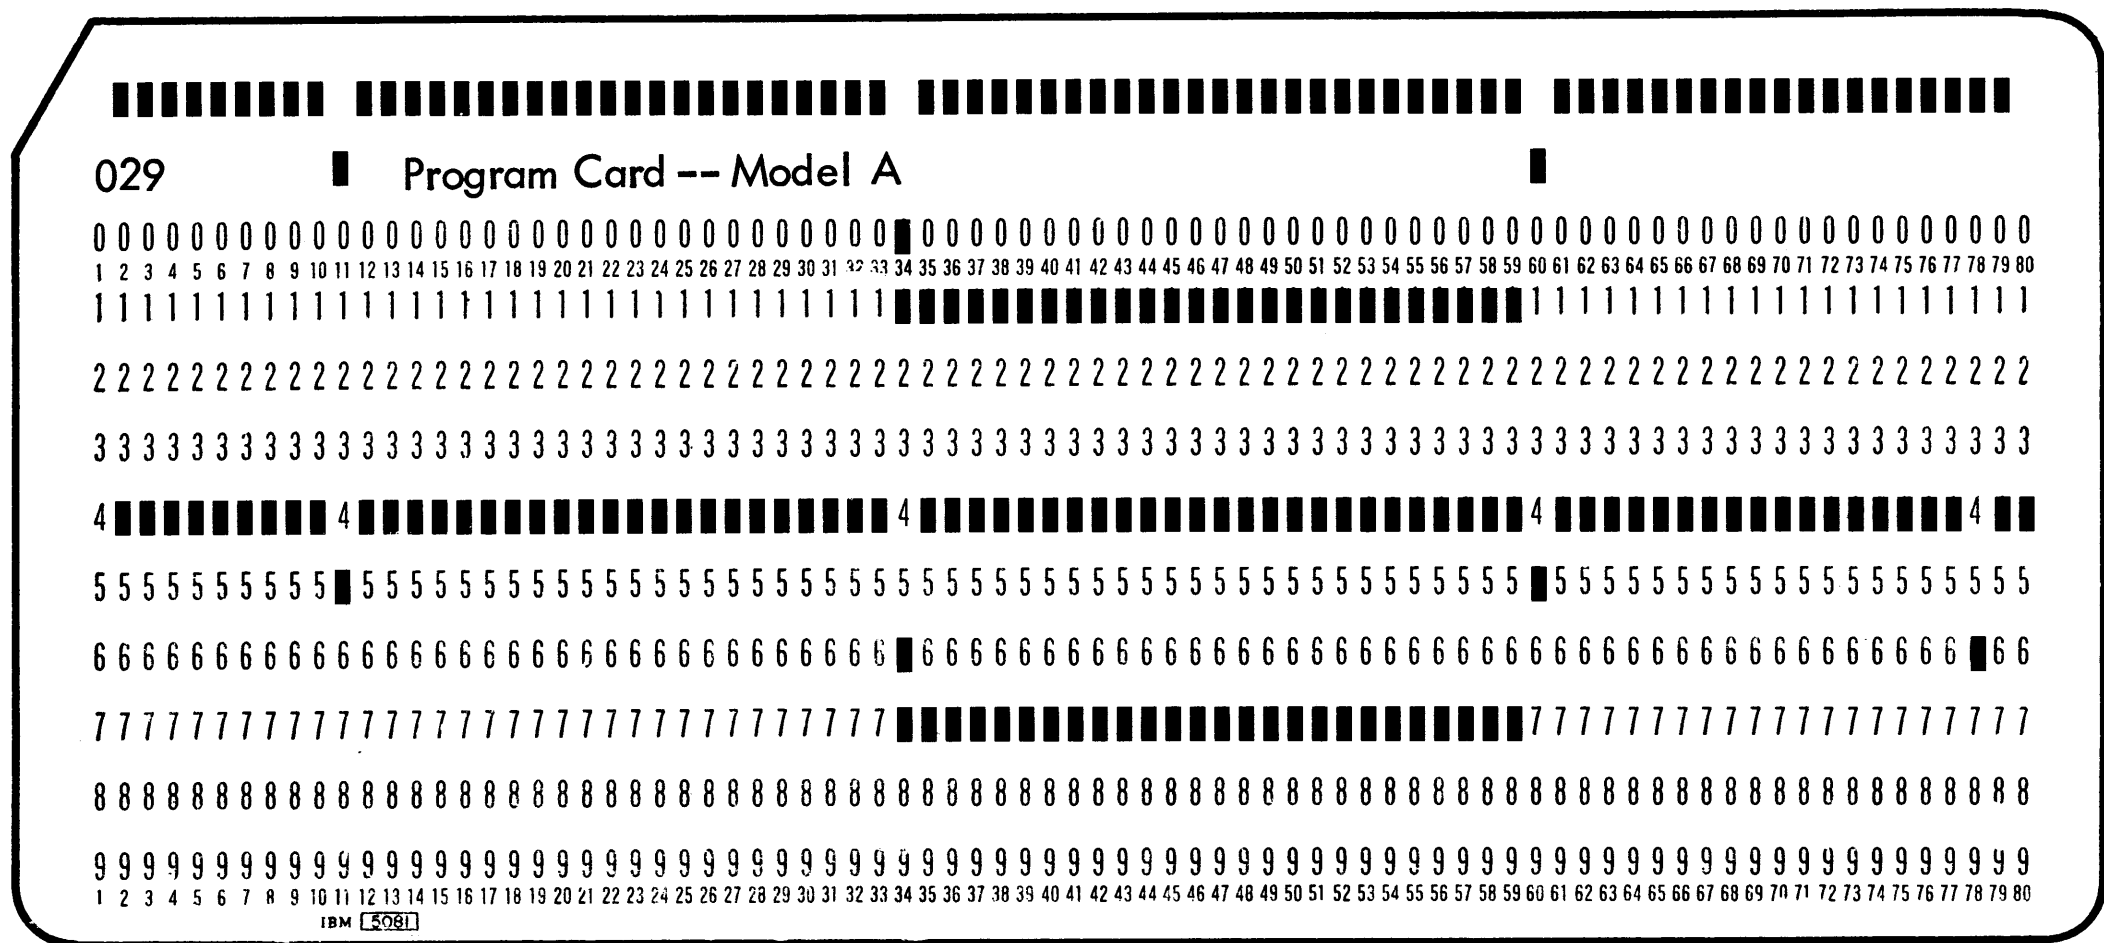

Figure 2-1. Program Card--Model A
2. Install Model A program card (Figure 2-1) on drum, install drum in machine, and lower the starwheels.